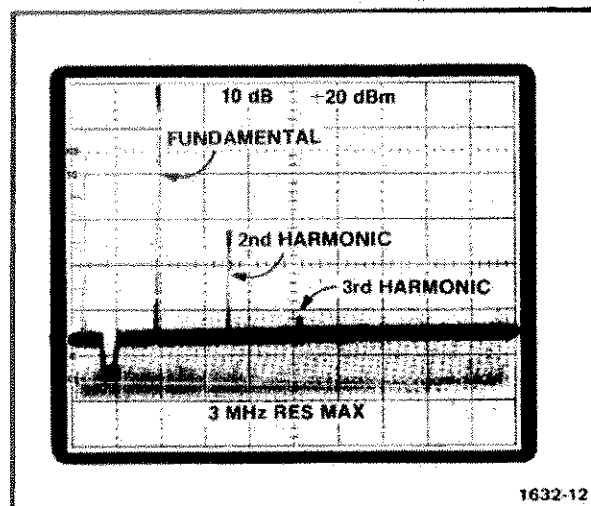

Fig. 3-5. Display of 100 MHz signal with fundamental properly positioned.
- f. Position the fundamental vertically to the top graticule line with the spectrum analyzer position control. See Fig. 3-5 for reference.
n. Check—slowly rotate the SG 504 COARSE control from 245 MHz to 550 MHz and check that the vertical distance (suppression) between the top of the second harmonic and fundamental is at least 2.7 divisions (27 dB); the tops of the third and remaining harmonics are separated at least 4.2 divisions (42 dB). See Fig. 3-5 for reference.
e. Position the fundamental vertically to the top graticule line with the spectrum analyzer position control. See Fig. 3-5 for reference.
h. Check—slowly rotate the SG 504 COARSE control from 495 MHz to 1050 MHz and check that the vertical distance (suppression) between the top of the second harmonic and fundamental display is at least 2.7 divisions (27 dB); the tops of the third and remaining harmonics are separated at least 4.2 divisions (42 dB). See Fig. 3-5 for reference.
c. Push in the SG 504 LOW RANGE pushbutton. Check that the fundamental is vertically positioned at the top of the graticule line. See Fig. 3-5 for reference.
d. Check—slowly rotate the SG 504 COARSE control from 245 MHz to 550 MHz and check that the vertical distance (suppression) between the top of the second harmonic and fundamental is at least 2.7 divisions (27 dB); the tops of the third and remaining harmonics are separated at least 4.0 divisions (40 dB). See Fig. 3-5 for reference.
e. Check—that the vertical distance (suppression) between the top of the second harmonic and fundamental is at least 3.3 divisions (33 dB); the tops of the third and remaining harmonics are separated at least 4.2 divisions (42 dB). See Fig. 3-5 for reference.
m. Check—that the vertical distance (suppression) between the top of the second harmonic and fundamental is at least 3.3 divisions (33 dB); the tops of the third and remaining harmonics are separated at least 4.2 divisions (42 dB). See Fig. 3-5 for reference.